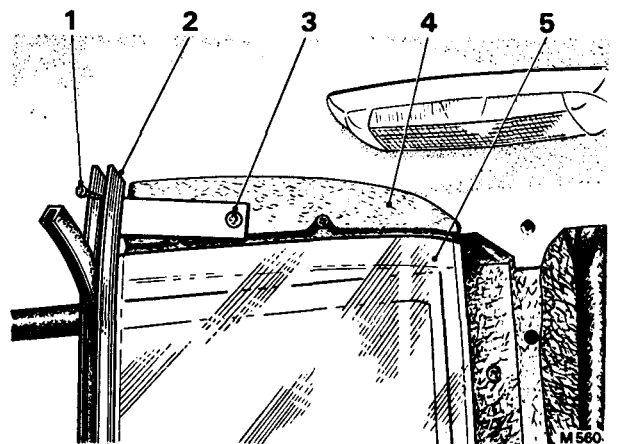

FIG. S61 POSITION OF THE DIVISION END WINDOW SECURING SCREWS
Electrically operated division glass —To remove (see Figs. S61 and S62)
11. Detach the felt strip from the upper channel then remove the Phillips headed screw securing the upper end of the channel to the end window mounting block on the cantrail (see Fig. S61).